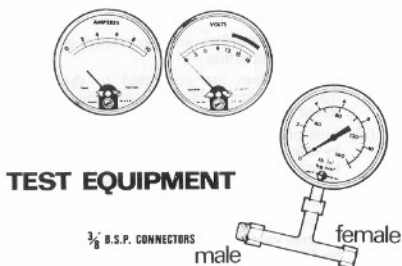

Fig. 13
- (i) Pressure gauge (see Figure 13) scaled for reading up to at least 160 lb/in² (1103.20 kN/m²).